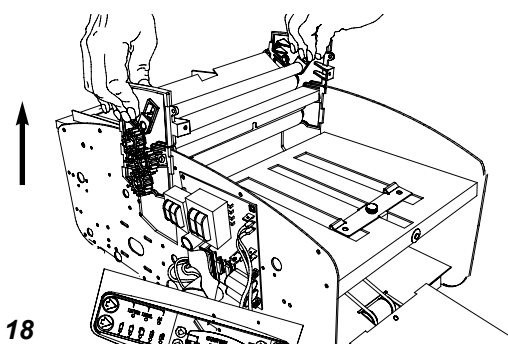

Fig. 18
8. Remove (2) Philips pan head screws from the bearing blocks. Grasp each bearing block at the top edge and lift it straight up from the machine (**Fig. 18**).